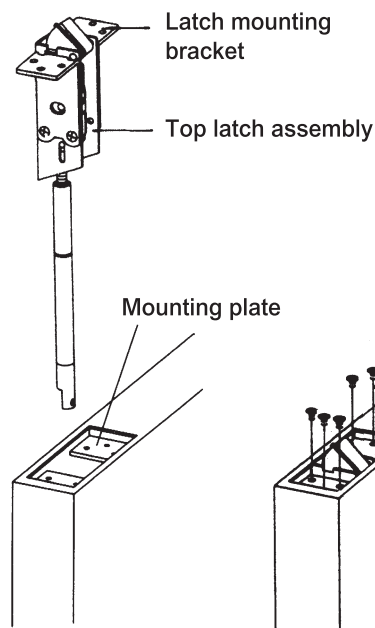

Figure 3-1
1. Insert top latch assembly into top of the door and fasten top latch mounting brackets on the mounting plates at top of the door by supplied fixing screws. (See Figure 3-1.)